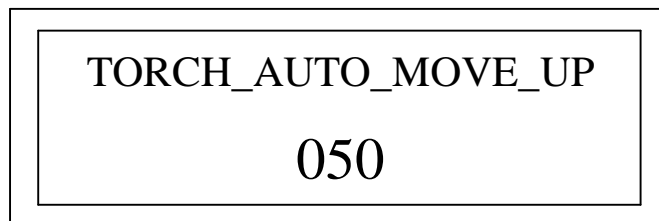

Fig. 25: TORCH_AUTO_MOVE_UP
20). TORCH_AUTO_MOVE_UP: Extinguish arc torch lift height. Fig. 25